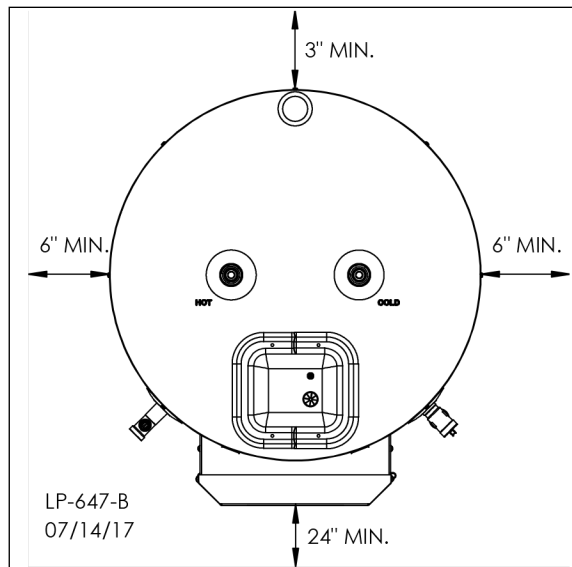

Figure 1 - Recommended Service Clearances
**NOTE:** If you do not provide the minimum clearances shown in Figure 1, it might not be possible to service the water heater without removing it from the space.